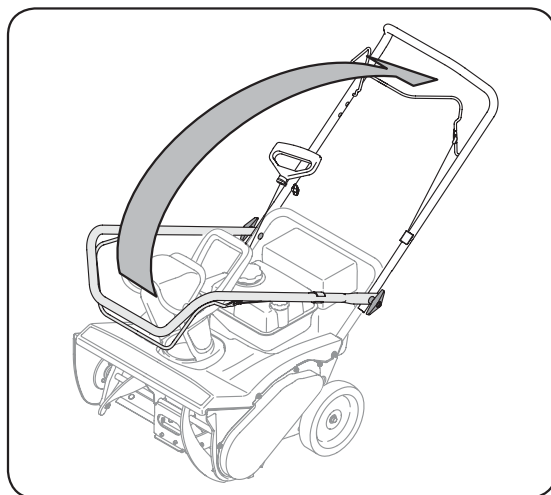

Figure 3-1
2. Raise the upper handle in the direction shown in Figure 3-1 until it clicks into the operating position. Make sure not to pinch or crimp the cable.